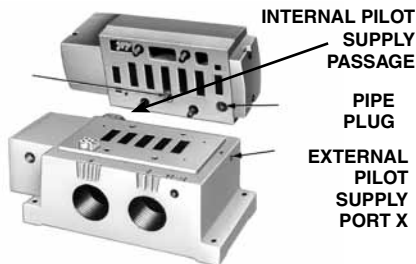

Figure 13
**ANSI SIZE 4, 10, 20 BASE MOUNTED VALVES:** See Figure 13.